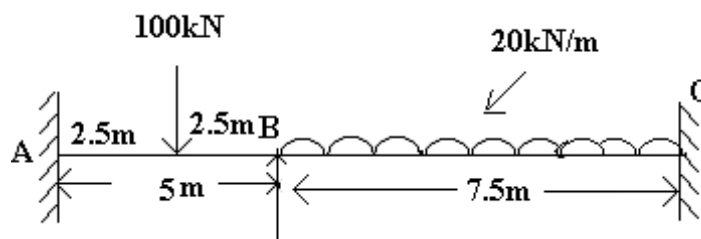

Figure 1:
5. Find the support moments of the continuous beam loaded as shown in Figure 1 using slope-deflection method. During loading the support B sinks by 10mm. Sketch the B.M.D. Take $E = 200 \times 10^6 \text{ kN/m}^2$ and $I = 100 \times 10^{-6} \text{ m}^4$. [16]